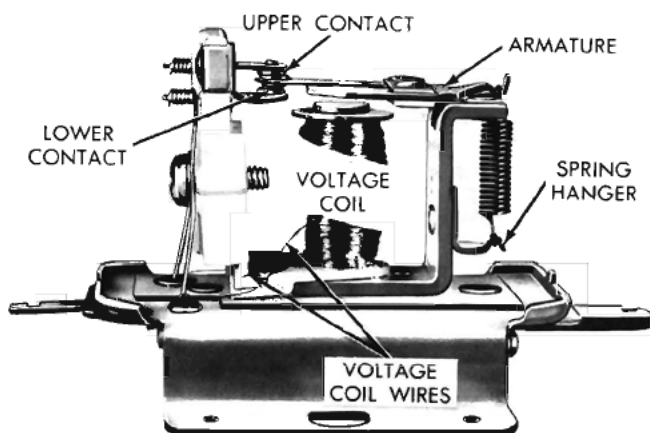
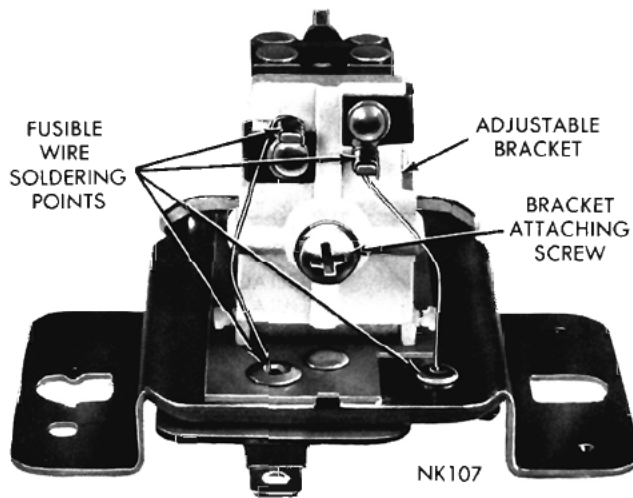

Fig. 4—Voltage Regulator (Cover Removed)
Fig. 5—Voltage Regulator Fusible Wires
The voltage regulator (Fig. 4) has two sets of contacts using a common single armature. The upper and lower stationary contact brackets are mounted on a molded plastic bracket which is attached to the regulator frame by a screw. (Fig. 5) The upper contact bracket is connected to the "IGN" terminal by a fusible wire. The lower contact bracket is connected to ground by another fusible wire. The armature is connected to the insulated "FLD" terminal.
A voltage coil, (Fig. 4) consisting of many turns of fine wire, is connected in series between the "IGN"
(1) When the battery line voltage is relatively low, the current flow through the voltage coil will be low. The magnetic force (or pull) of the voltage coil will not be great enough to overcome the regulator armature spring tension, which is holding the armature contact against the upper stationary contact, (Fig. 4).